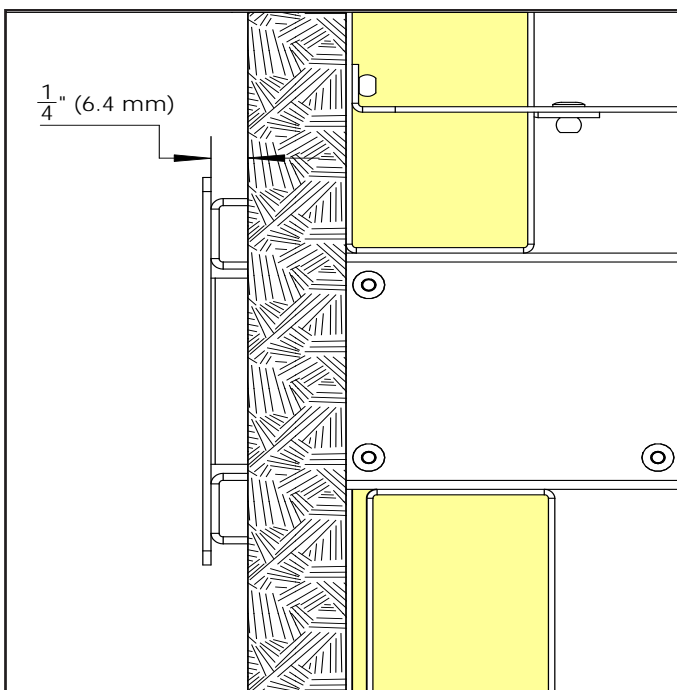

Figure 19. Outlet Trim Bezel - Standoff
Step 9: Finally, install the Outlet Trim Bezel by sliding it into the outlet until the backside contacts the finished wall surface. Next, re-install the two (2) screws removed in Step 2 to secure the Outlet Trim Bezel in place. When installed correctly there is a $\frac{1}{4}$ " (6.4 mm) standoff between the back side of the Bezel and finished wall (Figure 19).